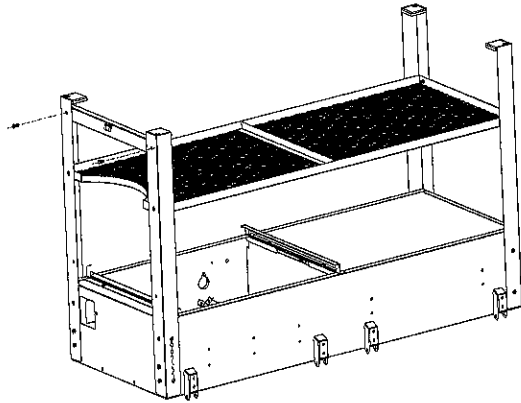

Fig. 4
*Locate:* The tubular Support Brace, (2) M6x15 bolts
Refer to Fig. 4 and attach the Support Brace to the **INSIDE** of the Left Side Front and Rear Legs using (1) M6x15 bolt at each end of the Brace